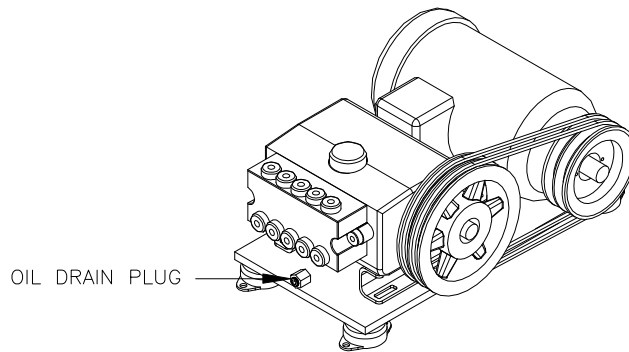

Figure 5.1: PURE WATER HP Pump and Motor.
- Step 2:** Remove the oil plug (Refer to Figure 5.1) and direct the oil to a catch basin or bottle. Allow the oil to drain empty.